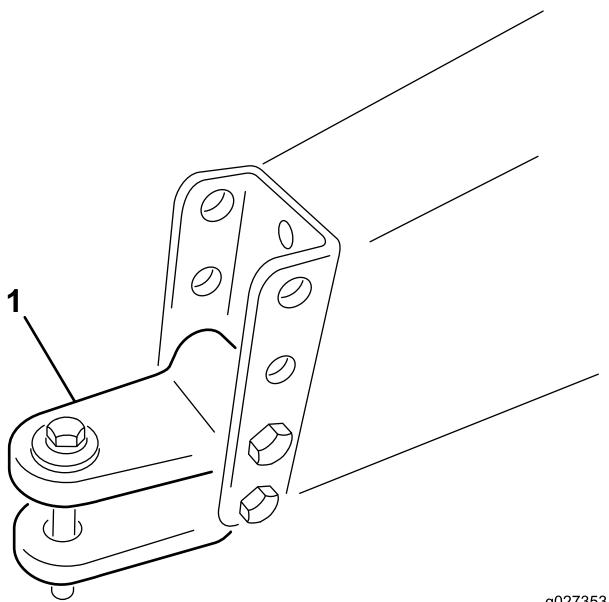

Figure 3
- A. Remove the bolts and locknuts that secure the hitch clevis (Figure 3) to the machine frame.